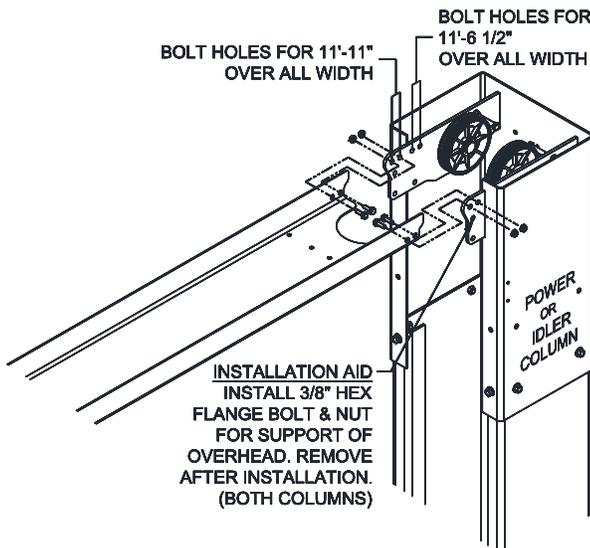

Fig 6 – Overhead Assembly
- 17) Before raising overhead into position install 4 each (2 per column) hex flange bolts and nuts in middle hole of column extension (see Fig 6 Installation Aid) for temporary support of overhead. Lift overhead assembly up into position and install with 8 each (4 per column) 3/8-16 x 3/4" lg hex flange bolts and hex flange nuts per side as shown in Fig 6.